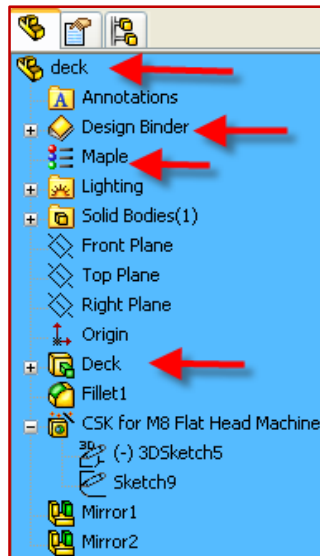

Figure 3.15 – Renaming Features
- ✓ This is shown in Figure 3.15, where the names assigned by SolidWorks to the deck features have been replaced by more descriptive names.